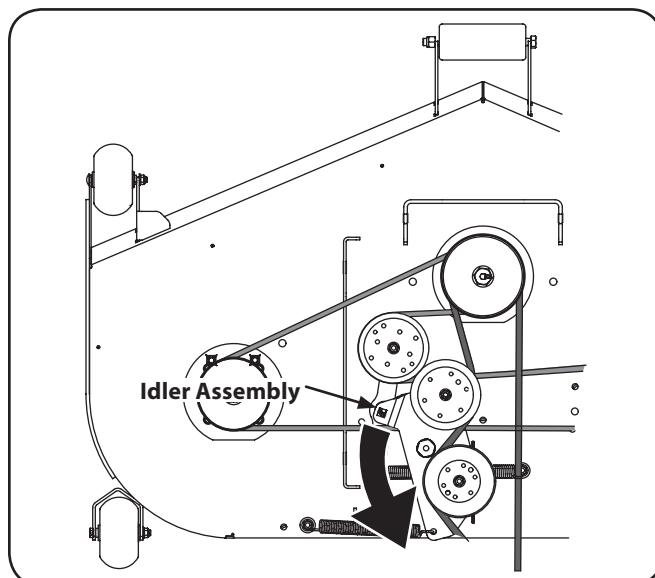
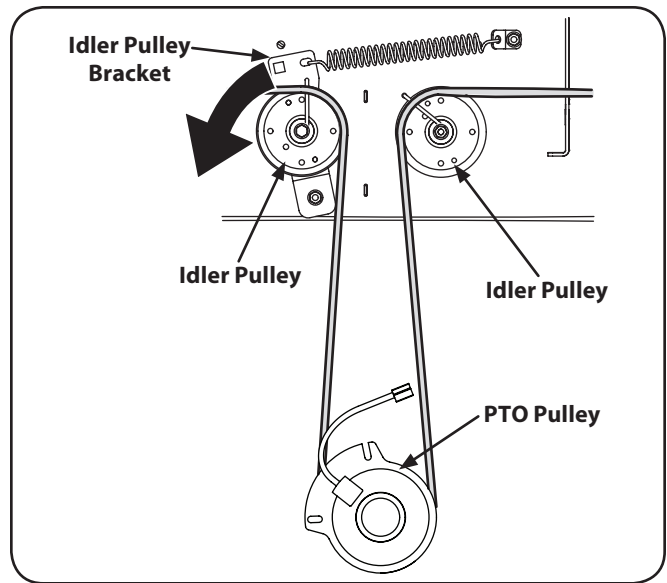

Figure 7-4
Figure 7-5
4. Using a $\frac{1}{2}$ " drive in the idler assembly turn the wrench towards the back of the tractor and slide the belt off the PTO pulley. See Figure 7-4 for the Z-Force S60 and Figure 7-5 for the Z-Force S48.